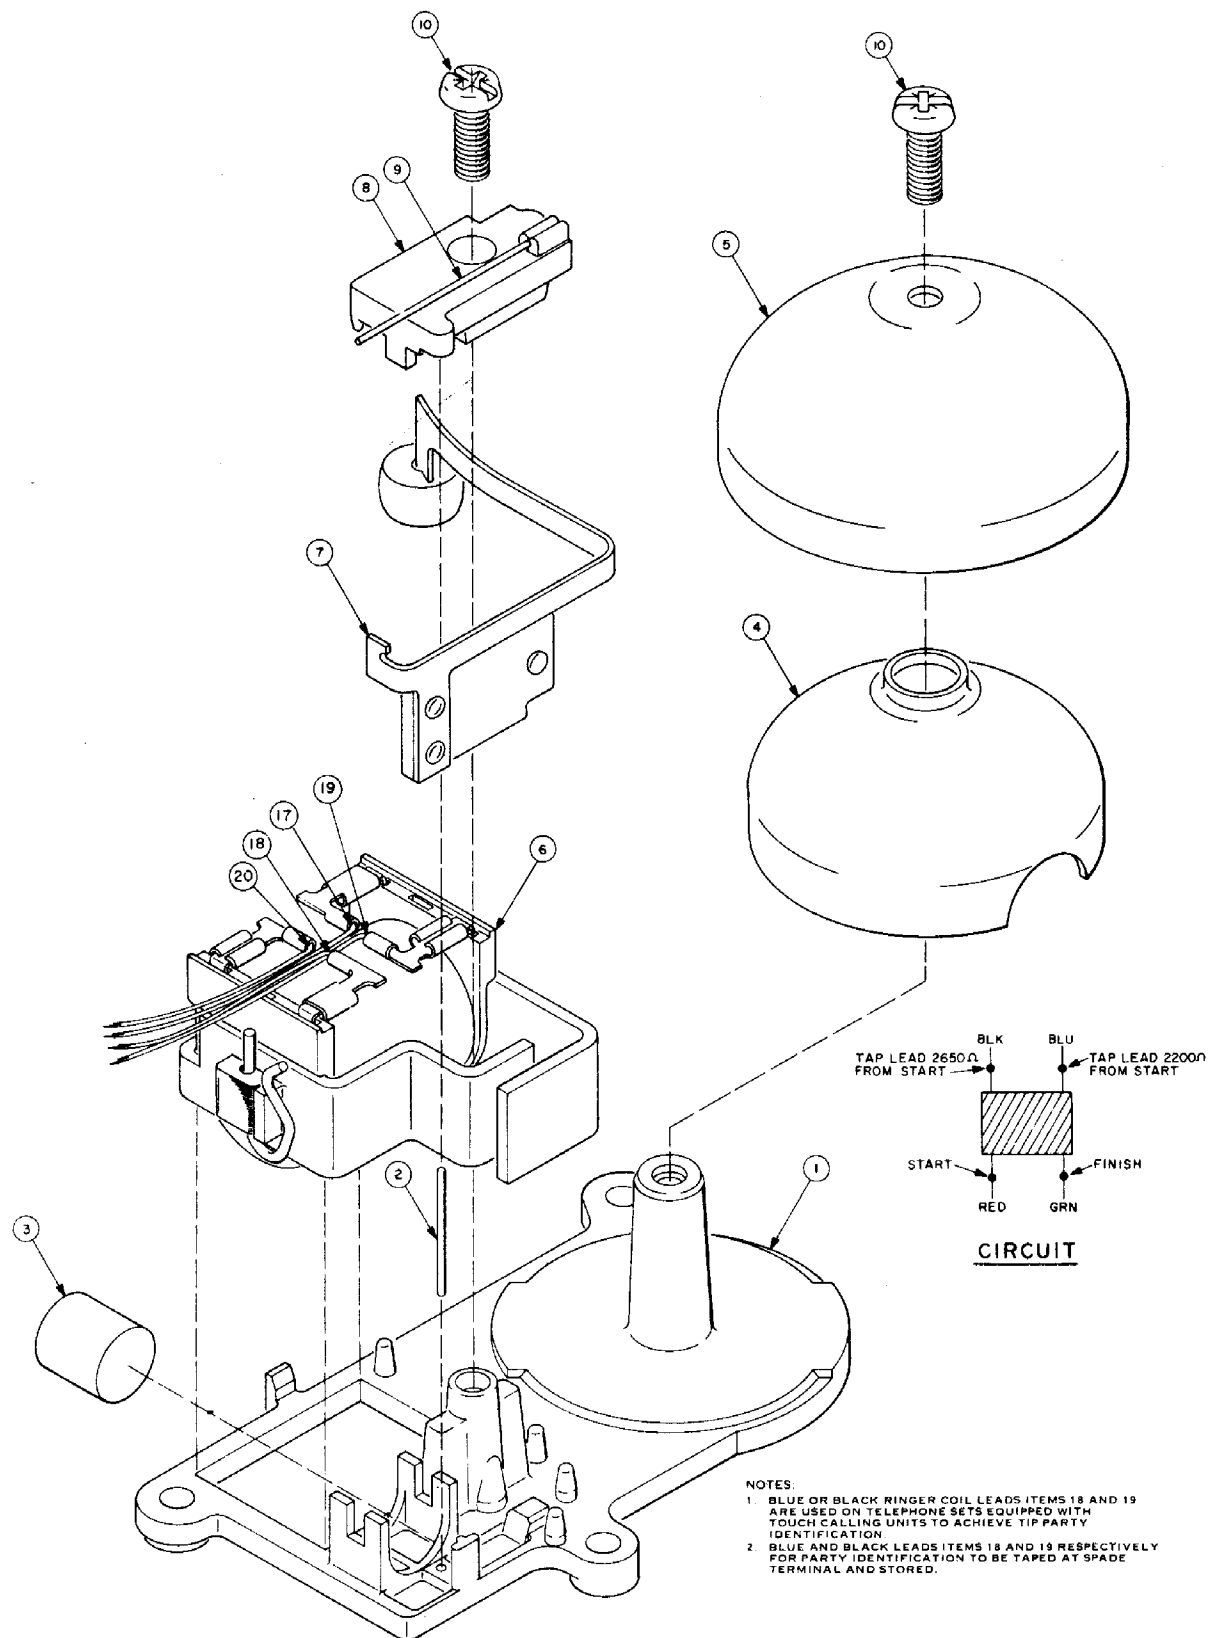

Figure 7. Type 46A Straight-Line Ringer.
9.01 The Type 46A Ringer (Figure 7) is a redesigned Type 46 Miniature Straight-Line Ringer. The ringer is used in the Types 102A, 182, 182A, 186, 187, 192A, 881, 890, and STYLELINE telephone sets when straight-line ringing is desired. It is rectangular in shape and has single-gong construction. The resonator assembly is plastic and fits under the gong assembly. Positioned across from the ringer and gong assembly are the coil and pole-piece assembly, the armature and clapper assembly, and the bias spring holder with the bias spring attached. Attached to the plastic frame enclosing the coil and pole-piece assembly are four leads used for interfacing with the transmission network. The complete parts list is enumerated in Table 21. Do not dis-
9.02 To disassemble the Type 46A ringer, refer to Figure 7, and proceed as follows:
- (a) Remove the mounting screw (item 10) securing the components in place.
- (b) Lift the bias holder (item 8) containing the bias spring (item 9) upward to remove the bias holder from its mounting post.
- (d) Lift the pin (item 2) upward to remove it.
- (e) Lift the coil, pole-piece assembly, and magnet (item 6) upward to remove it.
- (f) Remove the mounting screw securing the gong (item 5) and resonator (item 4) in place and remove them.
9.03 To assemble the Type 46A Ringer, refer to Figure 7 and proceed as follows:
- (a) Place the coil and pole piece assembly (item 6) in place over the mounting post (Figure 7).
- (b) Place the magnet (item 3) in its cradle and insert the pin (item 2).
- (c) Insert the armature and clapper assembly (item 7) in place alongside the magnet cradle.
- (d) Place the bias holder (item 8) in place over its mounting post, making sure the bias spring (item 9) sets into the notch in the armature and clapper assembly.
- (e) Insert and fasten the mounting screw (item 10).